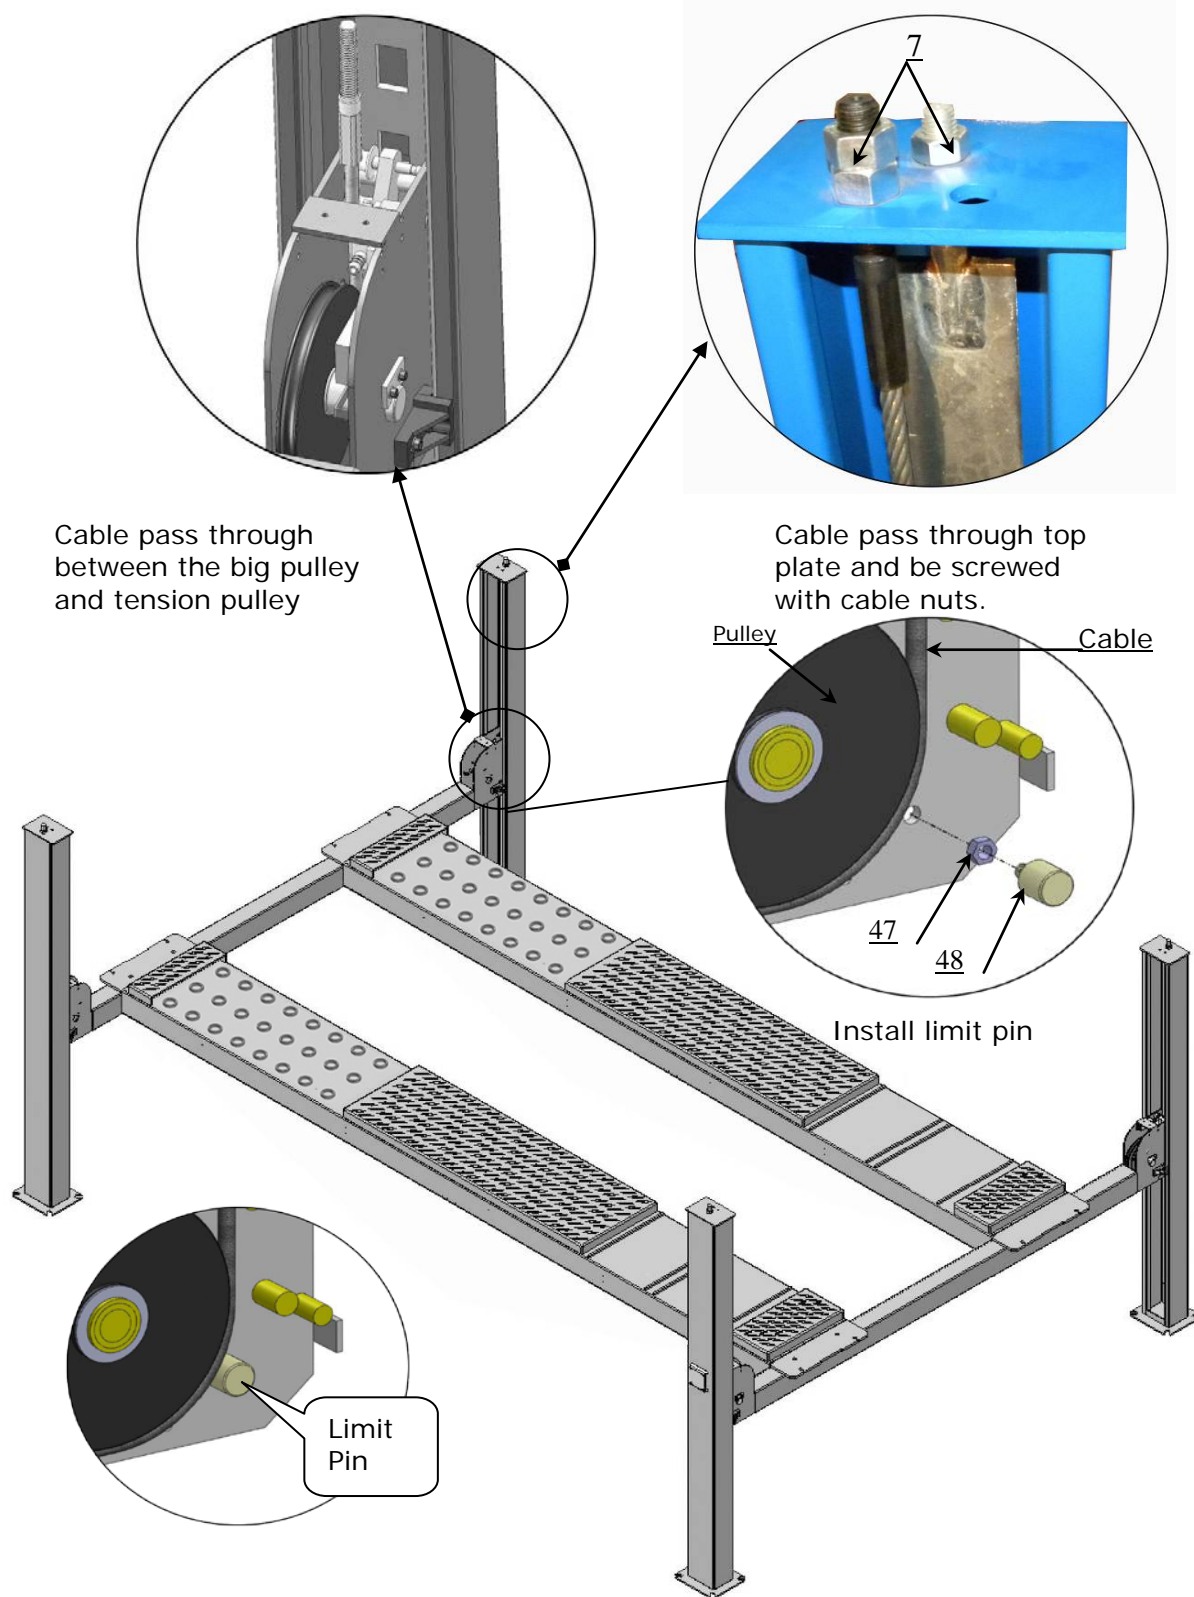

Fig. 22
2. The cable pass through the cross beam to top plate of columns and be screwed with cable nuts (See Fig. 22).